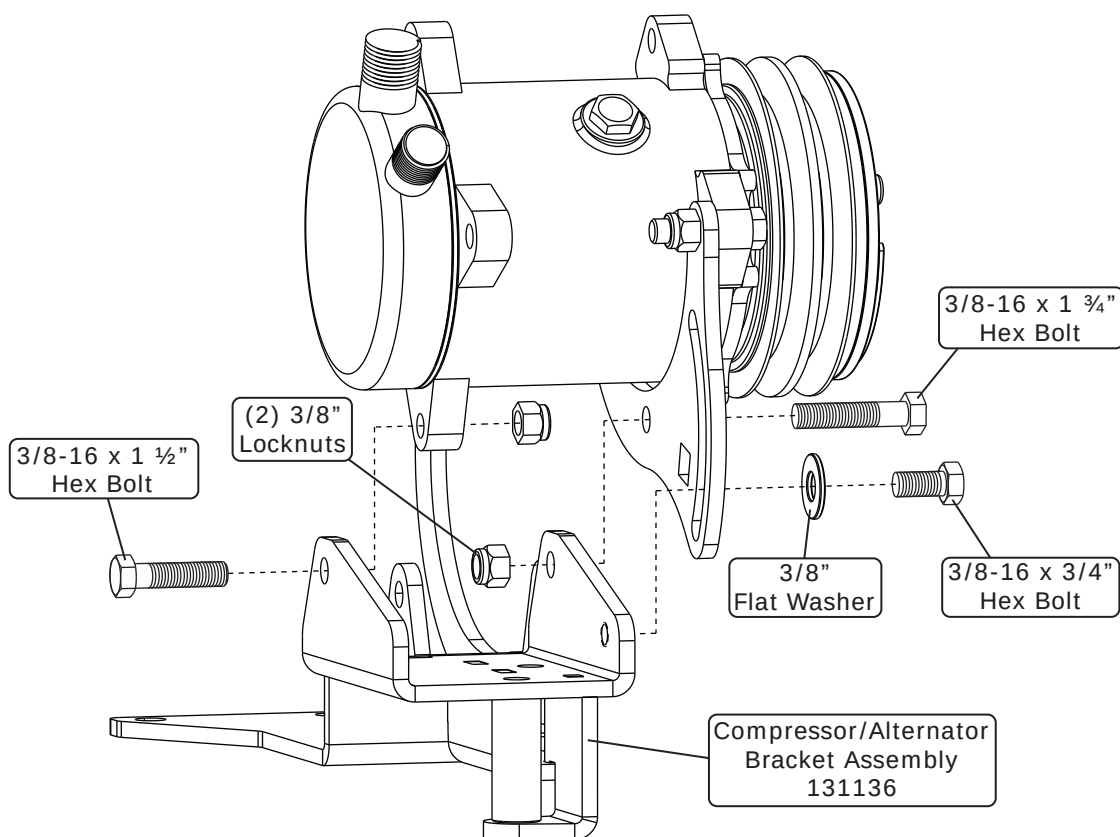

Figure 5
2. Install the compressor assembly onto the compressor/alternator bracket assembly using a 3/8-16 x 1 3/4" hex bolt, a 3/8-16 x 1 1/2" hex bolt, (2) 3/8" locknuts, a 3/8-16 x 3/4" hex bolt, and a 3/8" flat washer as shown in Figure 5, below. Torque bolts to 23 lb ft.